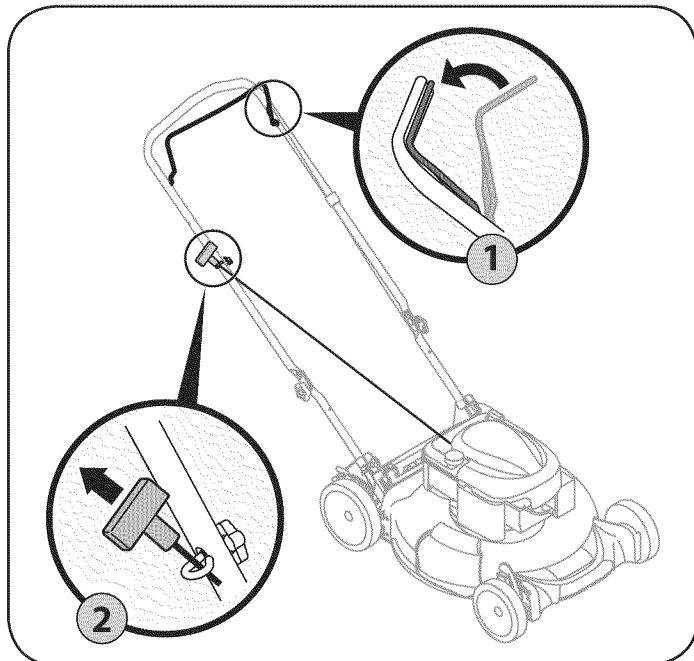

Figure 14
1. Standing behind the mower, squeeze the blade control handle against upper handle. See Figure 14.
2. Holding these two handles together firmly, grasp recoil starter handle and pull rope slowly until resistance is felt, then pull with a rapid, continuous, full arm stroke. See Figure 14. Keeping a firm grip on the starter cord handle, let the rope rewind slowly. Repeat until engine cranks. Let the rope rewind each time slowly.